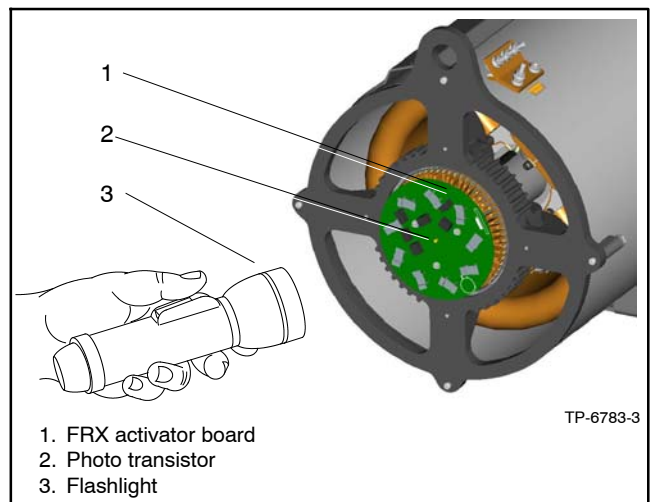

Figure 6-5 LED Flashlight Test (48RCL shown)
2. Refer to the respective generator set controller operation manual for starting/stopping procedures. With the generator set running at no load, shine a flashlight at the exposed photo transistor on the photo transistor board or FRX activator board. See Figure 6-5.